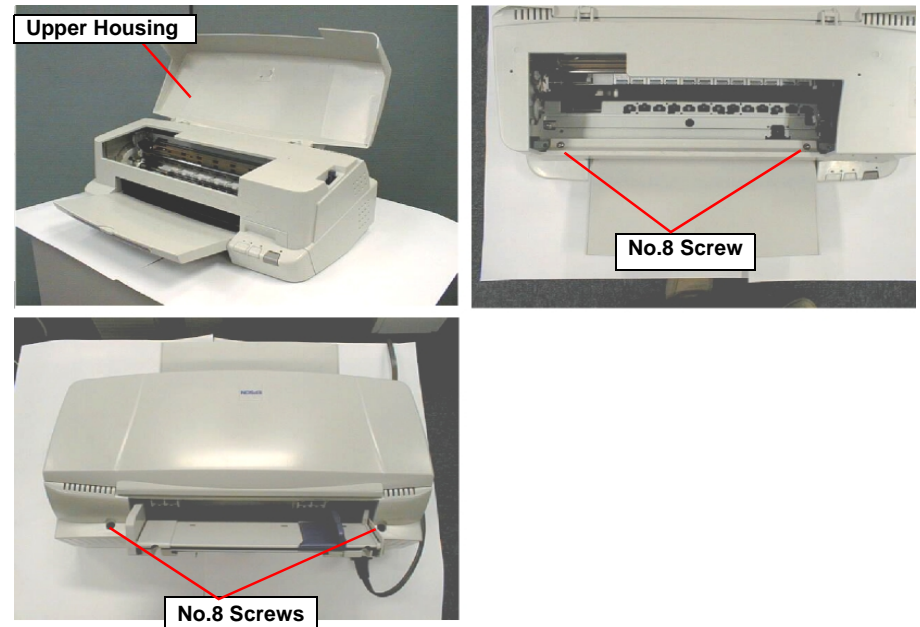

Figure 4-2. Removing the Upper Housing
- 2) Remove 4 screws (No.8) securing the Upper Housing, and remove by lifting it upward. Refer to Figure 4-2.